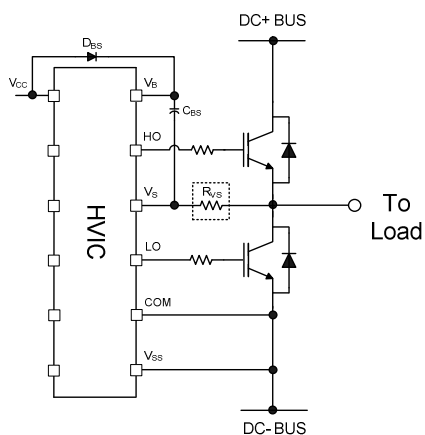
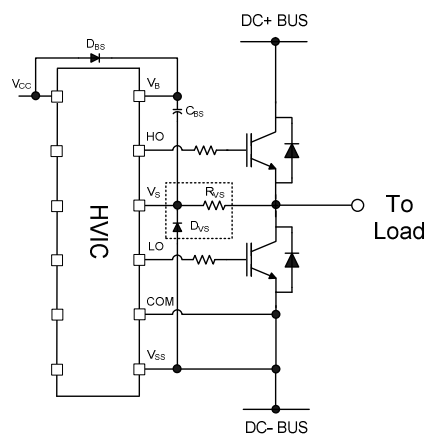

Figure 18:  $V_S$  resistor
Figure 19:  $V_S$  clamping diode
**Routing and Placement:** Power stage PCB parasitic elements can contribute to large negative voltage transients at the switch node; it is recommended to limit the phase voltage negative transients. In order to avoid such conditions, it is recommended to 1) minimize the high-side emitter to low-side collector distance, and 2) minimize the low-side emitter to negative bus rail stray inductance. However, where negative  $V_S$  spikes remain excessive, further steps may be taken to reduce the spike. This includes placing a resistor ( $5\ \Omega$  or less) between the  $V_S$  pin and the switch node (see Figure 18), and in some cases using a clamping diode between COM and  $V_S$  (see Figure 19). See DT04-4 at [www.irf.com](http://www.irf.com) for more detailed information.